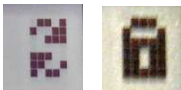

Fig. 24
Activation of cyclical scrolling is indicated by the 2 arrows in the top left corner of the display (Fig. 24).
Scrolling can be blocked by pressing the ENTER key (4th key from display). A padlock symbol will appear (Fig. 24).